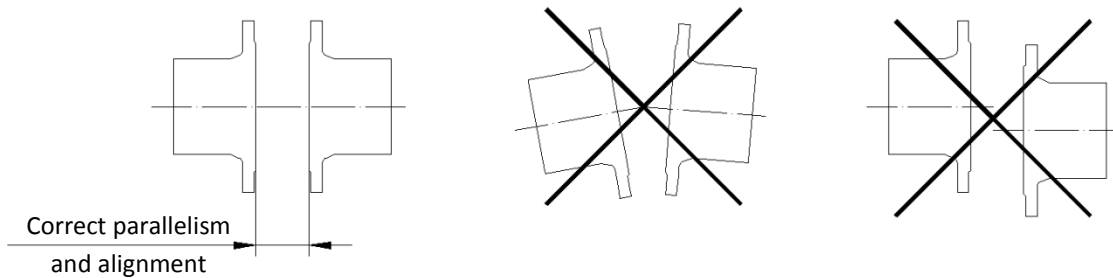

Fig. 2
- Special care must be taken to respect the correct distance (gap) between the flanges and ensure they are correctly aligned and parallel (Fig. 2).